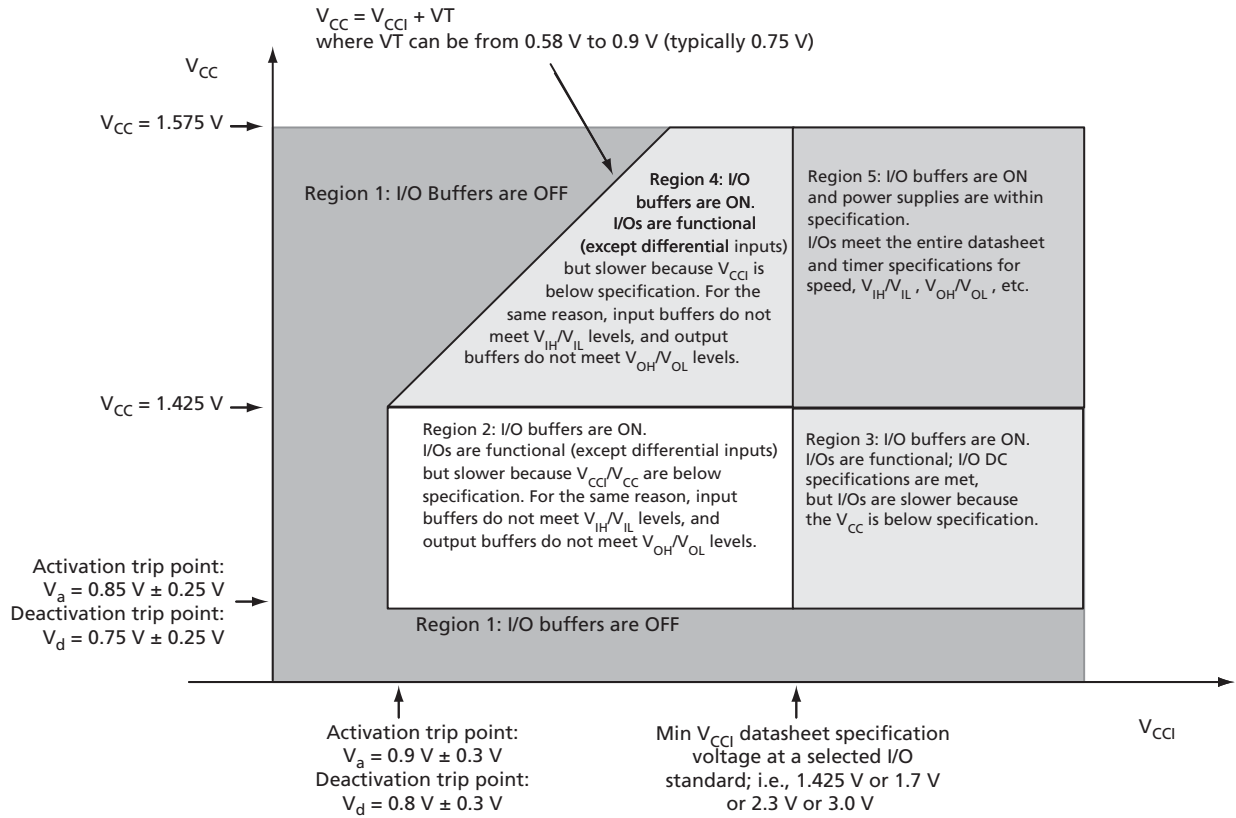

Figure 2-2 • I/O State as a Function of V_{CCI} and V_{CC} Voltage Levels
Sophisticated power-up management circuitry is designed into every ProASIC®3 device. These circuits ensure easy transition from the powered-off state to the powered-up state of the device. The many different supplies can power up in any sequence with minimized current spikes or surges. In addition, the I/O will be in a known state through the power-up sequence. The basic principle is shown in Figure 2-2 on page 2-4.
1. V_{CC} and V_{CCI} are above the minimum specified trip points (Figure 2-2 on page 2-4).